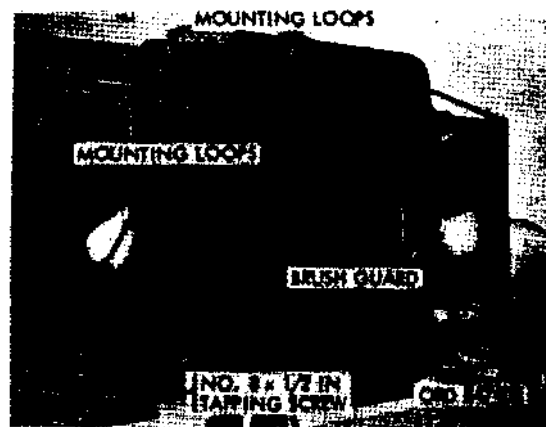

Figure 614. Mounting loops installed
- (2) Using a No. 27 drill and the mounting loops as a template, drill the necessary holes. Secure mounting loops to fenders and top of brush guard with No.8 x 1/2-tapping screws (fig. 614).